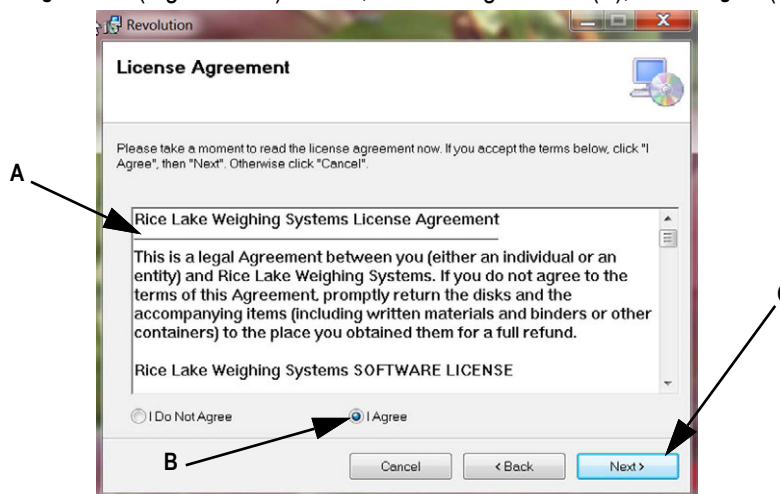

Figure 4-36. License Agreement Screen
4. Then at the **License Agreement** (Figure 4-36) screen, read the agreement (A), select **Agree** (B) and click **Next** (C).